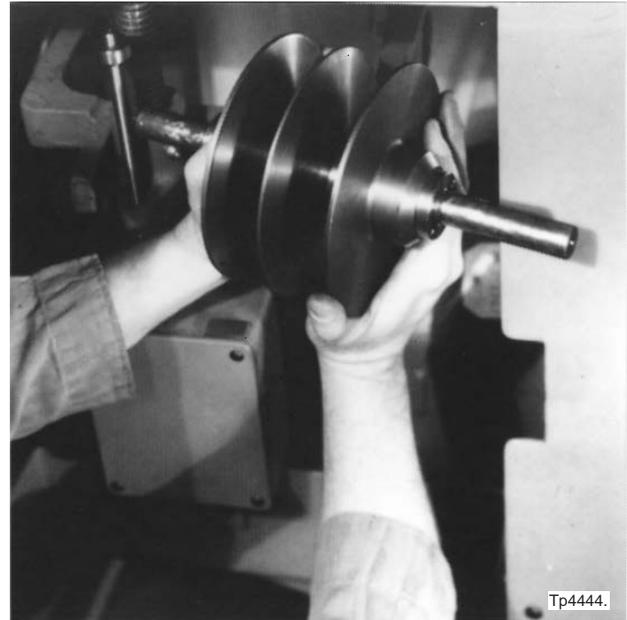

Figure 3.38 - Countershaft Removal
21. Move the pulley shaft to the right out of the left bearing and remove the pulley and shaft assembly, as shown in Figure 3.38 .